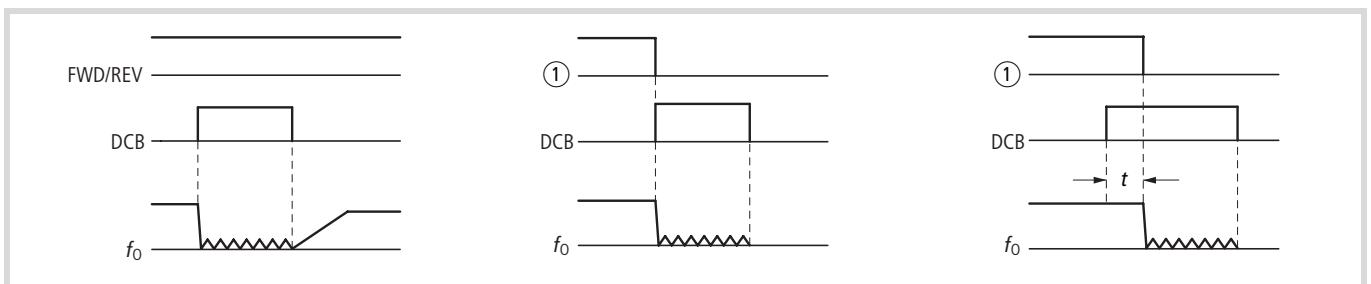

Figure 133: Function chart for DCB (DC braking)
① Start signal through keypad
- ▶ In PNU A053, enter a delay time t (→ fig. 133) from 0 to 5.0 s, which is to expire before DC braking takes effect after activation of the DCB input.